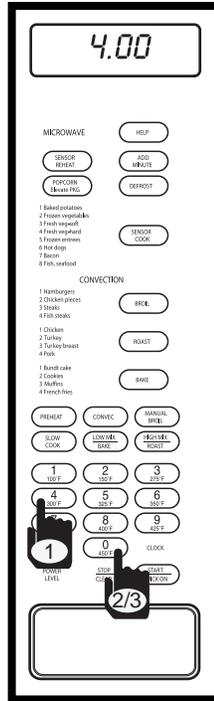

Figure 3-30.
1. Enter desired cooking or defrost time duration. For example: 4 minutes; press the number 4 key, and number 0 key twice (See Figure 3-30), the display will flash “4.00 - PRESS - START - OR - PRESS - POWER -LEVEL”.